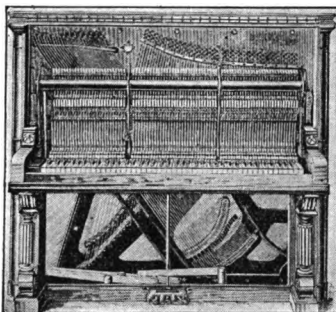

FIG. 139.—PIANO WITH FRONT REMOVED, SHOWING KEYS AND HAMMERS
**174. Piano.** In this instrument (Figs. 139 and 140) there are many metal strings or wires, often in sets of two or three for each note. Each string has its own fixed length. The strings are set in vibration by a felt-covered hammer controlled by a key. When the key is released a felt damper falls back against the wire and the vibration